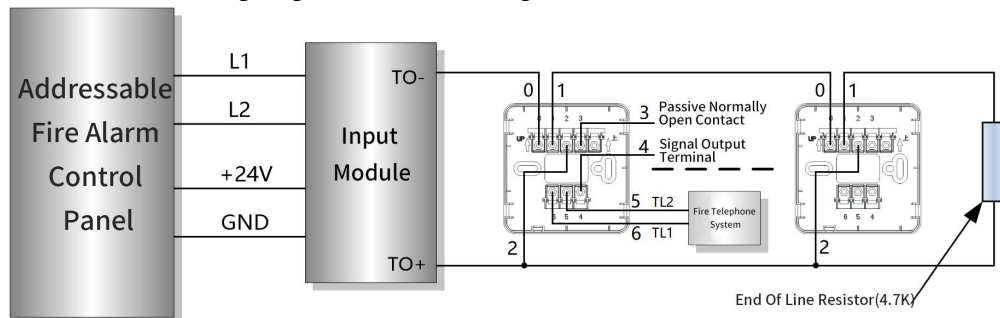
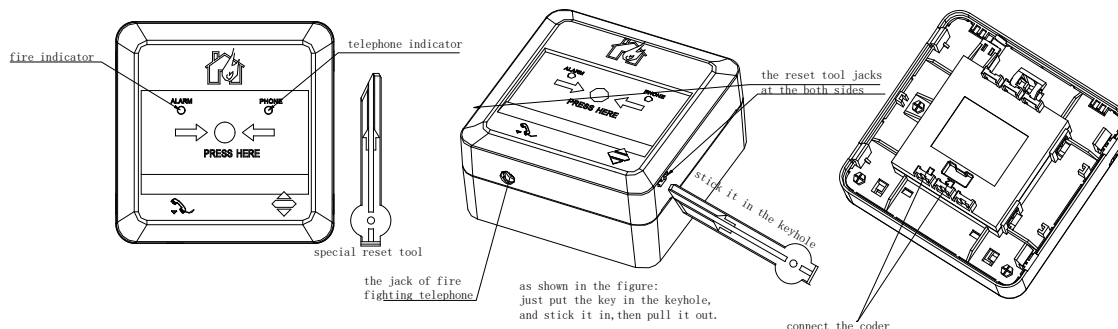

Fig.4
Fig.5
5.3 The extended use function and wiring diagram are shown in Fig.4:
Alarm: When there is a fire alarm manually confirmed, press the manual call point's panel (as shown in Fig.5), manual call point report the alarm and trigger the input module alarm at the same time, Normally open contacts 3 and 4 will be closed (as shown in Fig.4). After the manual call point alarm, the red fire alarm light will be on.
Restore: Insert the unlocking key through the keyhole of the shell (as shown in Fig.5), when the key get to the end, the switch panel restore the original state, then pull out the key from keyhole. At last, Reset the fire alarm controller, the input module and manual alarm return to normal monitoring status.
Fire telephone: As shown in Fig.5, insert the plug of the handheld fire telephone into the jack of the fire telephone, then the fire telephone can communicate.